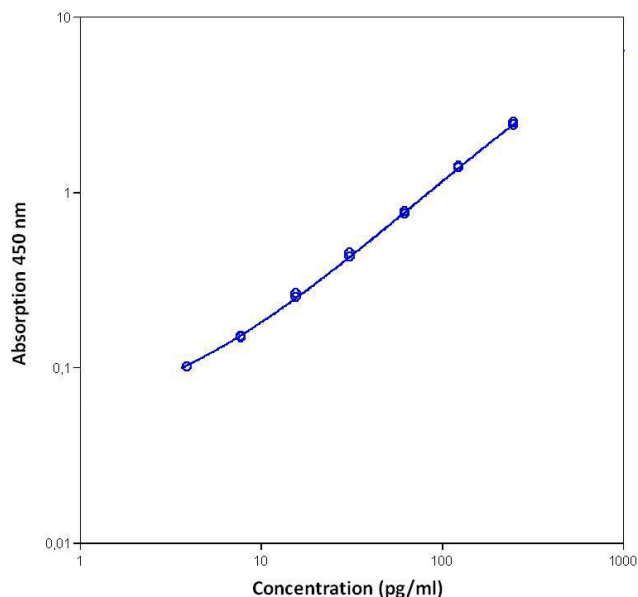

Fig. 4 Representative standard curve for human EGF Instant ELISA. Human EGF was diluted in serial 2-fold steps in Sample Diluent.
7. A representative standard curve is shown in Figure 4.